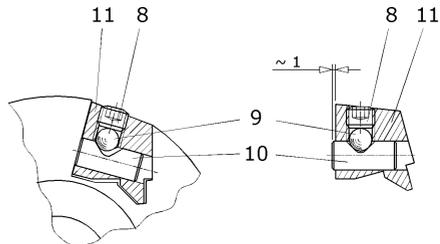

Fig.5
3. Loosen the set screw (8) with an Allen key until the pressure pin (10) no longer projects laterally against the additional knife holder (11). Should the set screw inadvertently comes-out completely, the ball (9) and the pressure pin (10) may fall-out from the knife holder. Figure 5 shows how the parts fit together again. To test if the parts were assembled correctly, turn the set screw as much as possible in the threaded hole. If the pressure pin projects 1 mm laterally against the knife holder, then the individual components were assembled correctly.
(See Fig. 5)